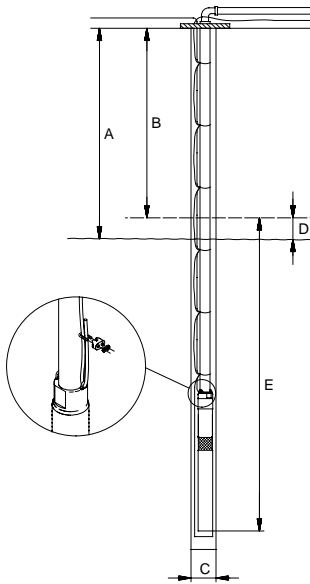

Fig. 9 Installation depth
- When plastic pipe is used, a stainless-steel safety wire is recommended for lowering and lifting the pump. Fasten the wire to the eyelet on the pump, see fig. 9.
The dynamic water level should always be above the pump, see fig. 9.